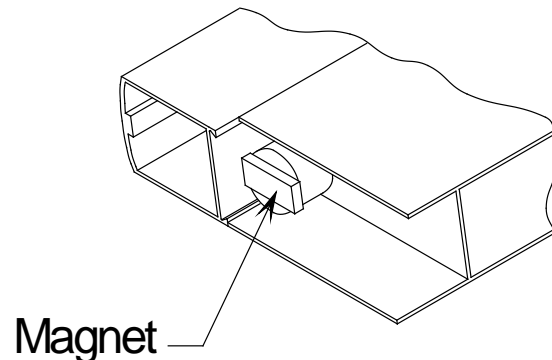

Figure 34
6. On a full open unit the magnet is located inside the top rail of the swing panel. (See Figure 34) It should line up with the magnetic reed switch, is a 3/8" dia. black circle on the bottom of the header.